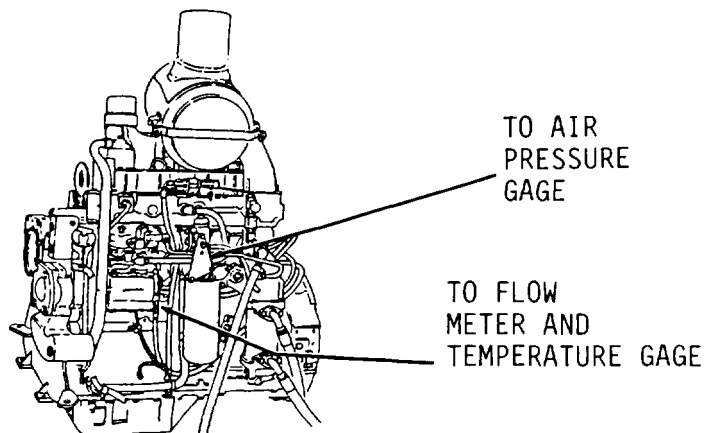

Figure 6-1.
- Step 4. Check for poor compressor cooling (compressor runs hot). Check coolant flow and temperature through compressor. Install suitable flow meter and temperature gage between compressor coolant outlet and engine block (Figure 6-1). Start engine. Flow through compressor should be at least 2.5 gpm. Coolant temperature should not exceed 200 degrees F. Stop engine.
- Step 6. Check if air compressor runs loaded an excessive amount of time. Measure air system leakage. Install suitable air pressure gage in air system (Figure 6-1). Start engine and let air pressure build up and stabilize. Observe air pressure gage. System leakage should not exceed 1 psi pressure drop per minute without brakes applied and 3 psi pressure drop with brakes applied. If leakage is excessive, look for system leaks. Stop engine.